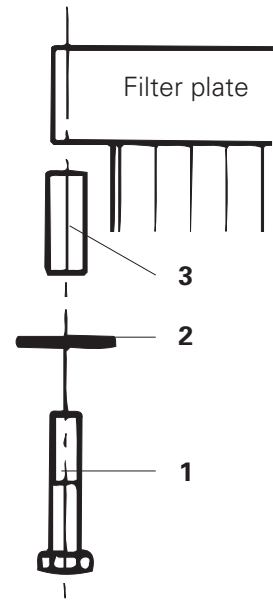

Figure 8
3. Unscrew the fixing screw (**1** - Fig. 8, page 16) only so much that the sealing strip is not compressed.
4. Release the other side of the filter plate, remove the screw (**1** - Fig. 8, page 16), the washer (**2** - Fig. 8, page 16, and spacer (**3** - Fig. 8, page 16).
1. Coat the front end of the screw (**1** - Fig. 8) with sealing compound. If the screw coating is worn it must be replaced.
2. Place the washer (**2** - Fig. 8), and spacer (**3** - Fig. 8) on the screw shank.